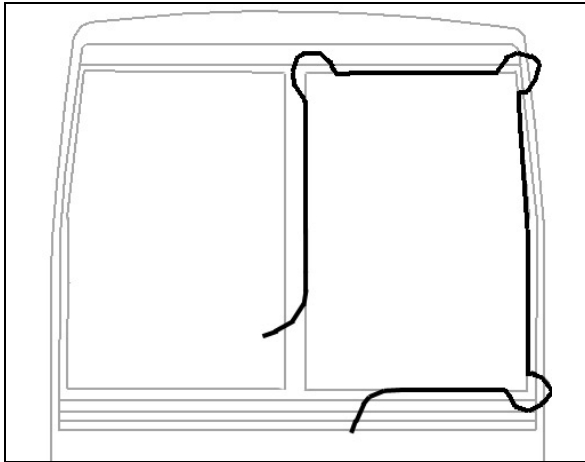

FIGURE 51: WINDSHIELD INSTALLATION USING ROPE
- Insert rope into rubber extrusion leaving enough length at each corner to make a loop. Spray soapy water onto rope and rubber extrusion (Fig. 51).